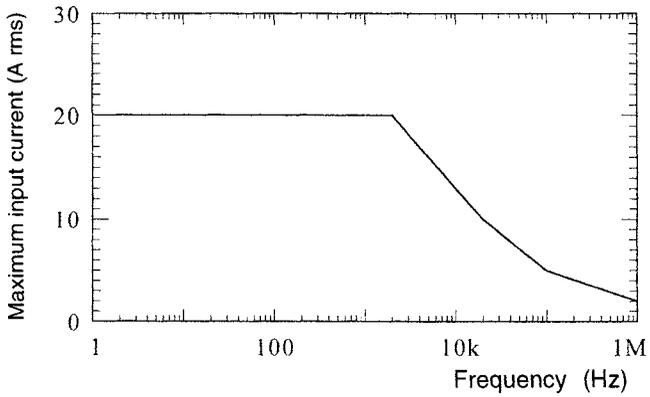

Fig. 2 Maximum Input Range
- Continuous maximum input range 20 A (see Fig. 2)